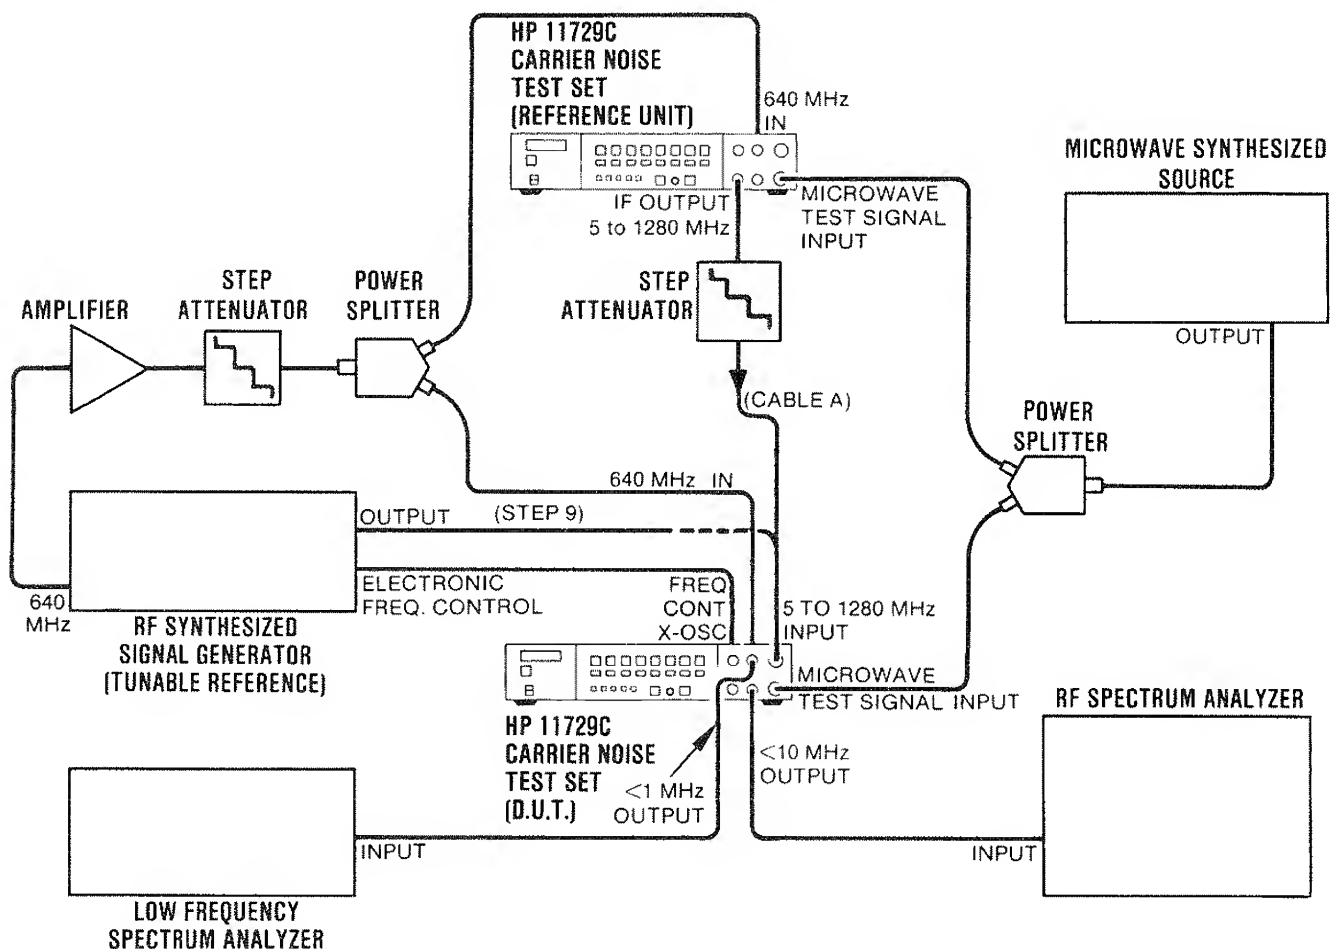

Figure 4-3. Residual Phase Noise Test Setup (Using a Test Signal of 10 GHz)
1. Connect the instruments as shown in Figure 4-3.